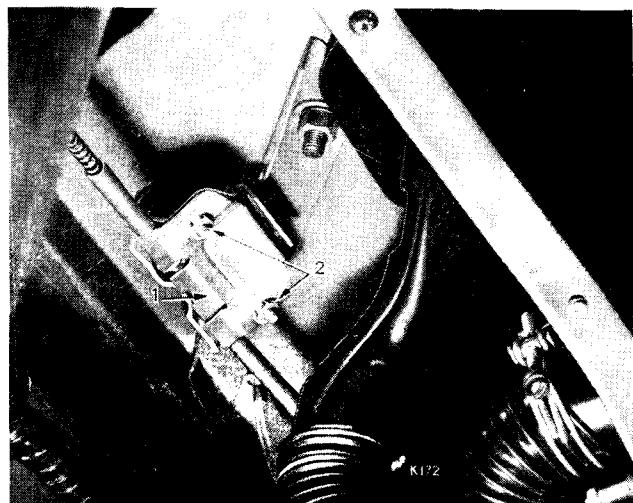

Fig. 81. Windscreens wiper wheelbox
To Remove—Wheelbox, Passengers' side (Fig. 81)
Release the wheelbox outer casing (1) from the wheelbox main body by removing two nuts (2) (Fig. 81). Support the drive cable and wheelbox tubing in a convenient position and withdraw the wheelbox main body.
Release the wheelbox outer casing (1) from the wheelbox body by removing two nuts (2) (Fig. 81).